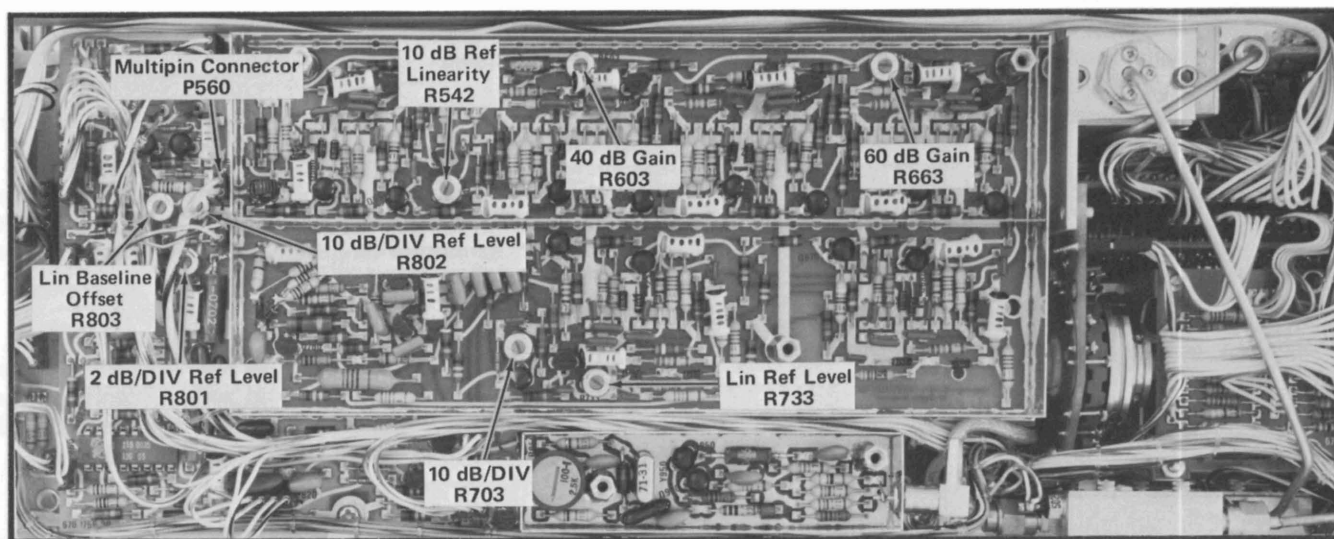

Fig. 4-3. Function IF calibration adjustments and test points.
Pull the harmonica (multipin) connector P560, to pins 1 and 2 on the Function IF circuit board (Fig. 4-3).
b. Adjust the Lin Baseline Offset R803 (Fig. 4-3) clockwise from a fully CCW position to a point where the trace stops moving down. (Do not adjust past this point.)
b. Apply a 10 MHz -10 dBm signal, from a calibrated signal source, through appropriate adapters (BNC female to SEAELECTRO female, SEAELECTRO male to male adapter, and SEAELECTRO female to harmonica connector) to P560 (Fig. 4-3). Note: Part numbers for these adapters are provided under Equipment Required List. If an accurate 10 dB, $50\ \Omega$ step attenuator is available, connect it in series with the signal source.
c. Adjust the 2 dB/Div Ref Level R801 (Fig. 4-3) so the trace is at the 5th graticule line down from the top.
g. Adjust Lin Ref Level R733 (Fig. 4-3) so the trace is at the top graticule line.
i. Calibrate the center screen dynamic range to 20 dB (2 division) by adjusting 10 dB/Div R703 (Fig. 4-3) as the signal input level is changed 20 dB.
j. Set the signal input level to -40 dBm. Adjust 10 dB/Div Ref Level R802 (Fig. 4-3) so the trace is at graticule center.
k. Increase the signal level to 0 dBm then adjust the 10 dB Ref Linearity R542 (Fig. 4-3) so the trace is at the top graticule line.
o. Adjust the 40 dB Gain R603 (Fig. 4-3) so the trace is at the reference level or top of the graticule.
r. Adjust the 60 dB Gain R663 (Fig. 4-3) so the trace is at the reference level.